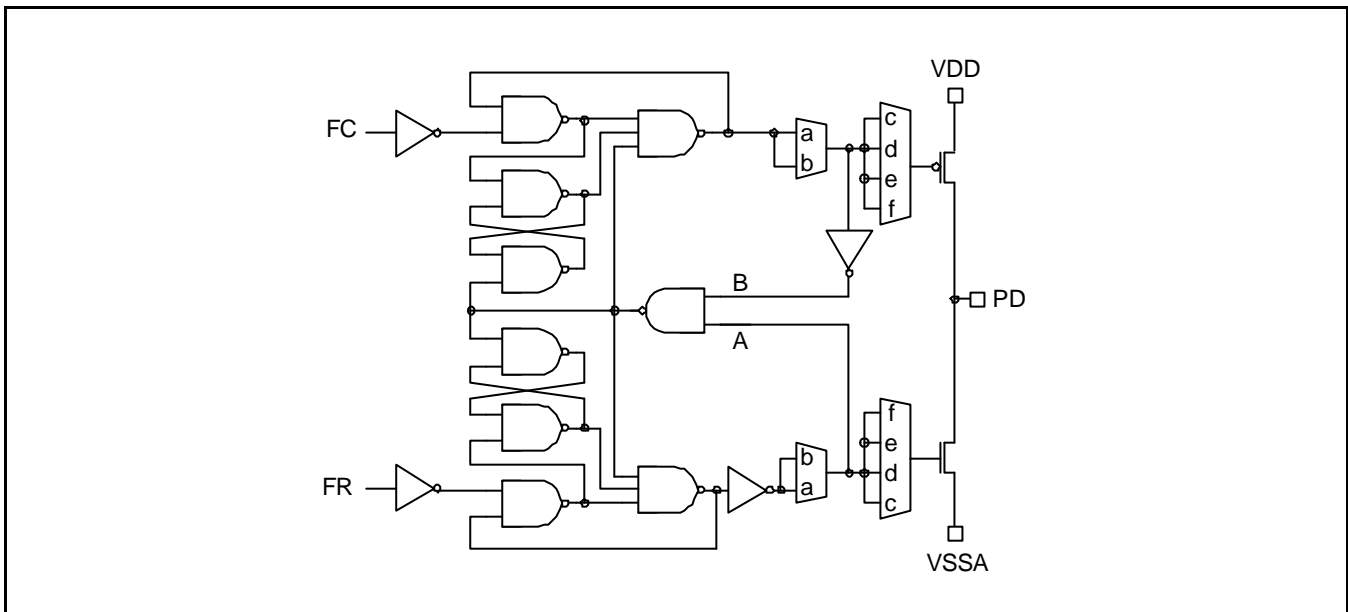

Figure. 10 PFD scheme
- differences of deadzone (in Figure. 10)